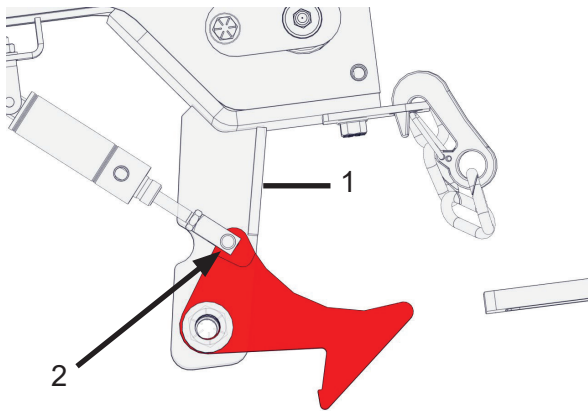

Figure 5
2. Use wrenches to remove the hardware securing the existing arm hook latch to the latch mounting bracket (Figure 5, Item 1 shows the latch mounting bracket). Retain the washers (quantity 6).
3. Use a pliers to remove cotter pin out of cylinder pin (which is holding the latch component to the cylinder) (Figure 5, Item 2 shows the cylinder pin and cotter pin locations). Retain the cylinder pin for reinstallation. Discard the cotter pin, the hook latch component, and its bolt and nut.